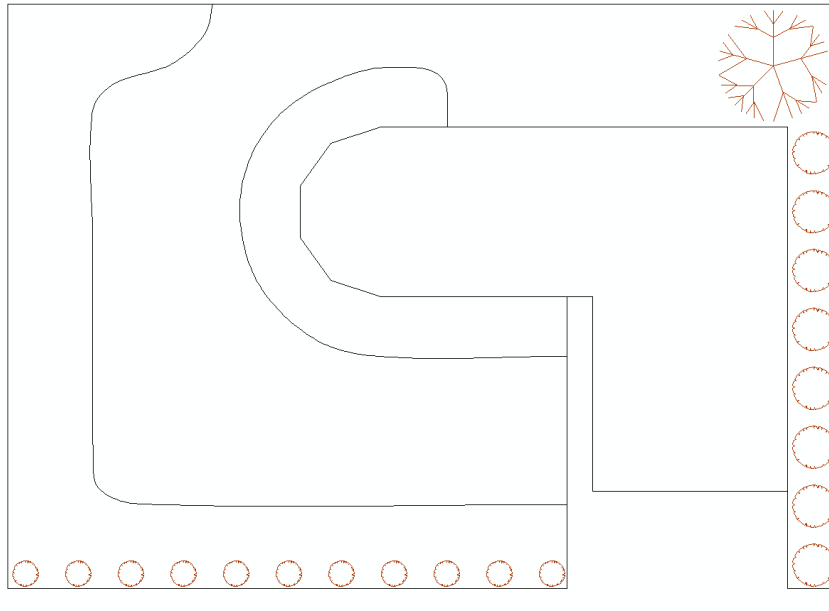

Figure 4-77
23. Place some **BROWN SHRUB** symbols **3ft (1m)** in size (**Draw/Symbol**), as described above, along the garden boundary parallel with the sidewalk. See Figure 4-77.